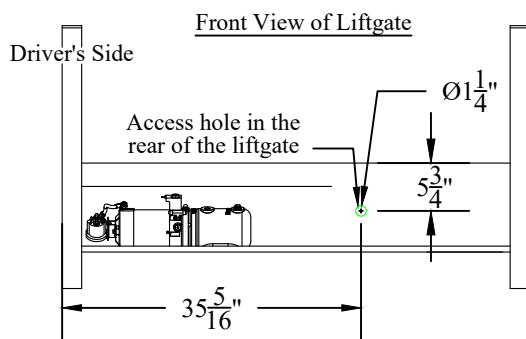

Figure 9: Spare tire access.
2. **Remove** the black plastic plugs for your application (Figure 9).